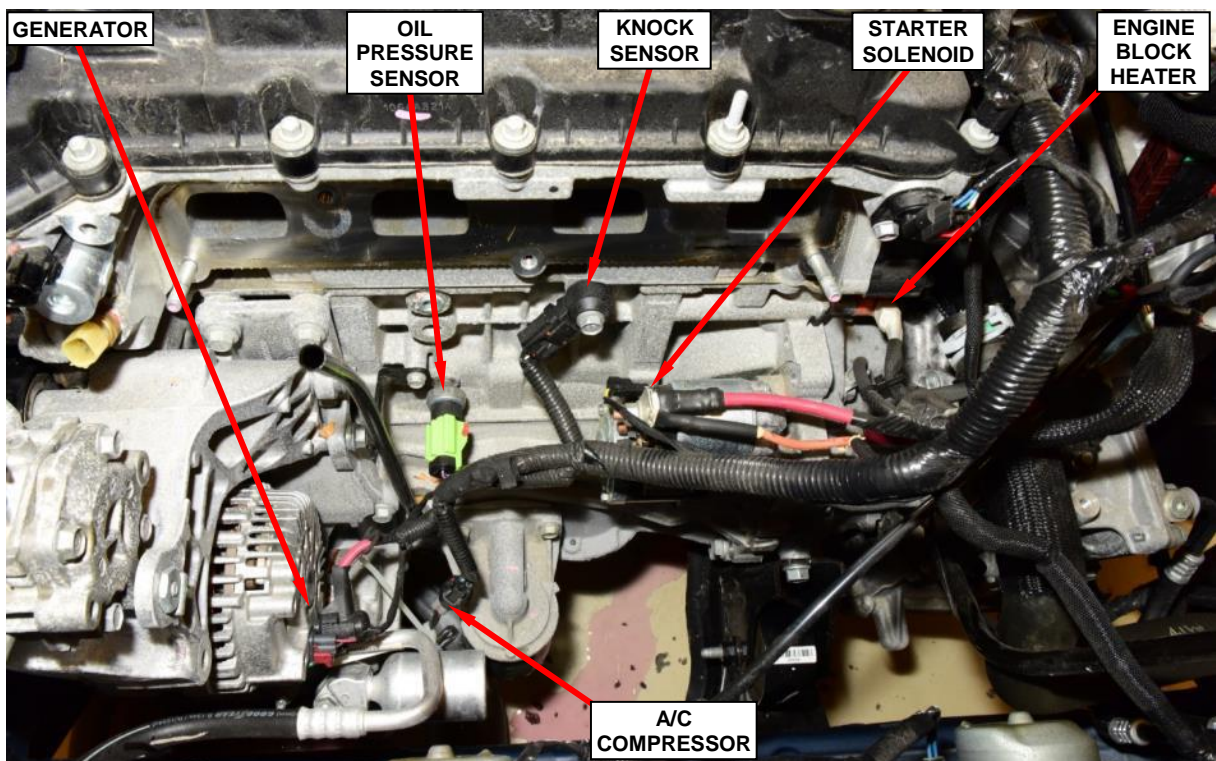

Figure 21 – Engine Electrical Harness
67. Disconnect the engine wire harness from the oil pressure sensor and the knock sensor (Figure 21).
68. Disconnect the engine wire harness from the generator (Figure 21).
69. Remove and save the battery positive terminal nut and remove the battery positive wire from the generator (Figure 21).
70. Disconnect the engine wire harness from the A/C compressor (Figure 21).
71. Disconnect the engine wire harness from the starter solenoid (Figure 21).
72. Remove and save the battery positive terminal nut and remove the wires from the starter solenoid (Figure 21).
73. **For vehicles equipped with an engine block heater**, disconnect the engine wire harness from the heater element (Figure 21).